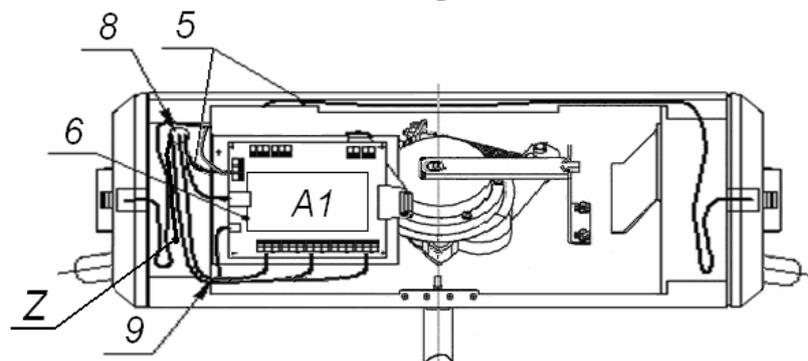
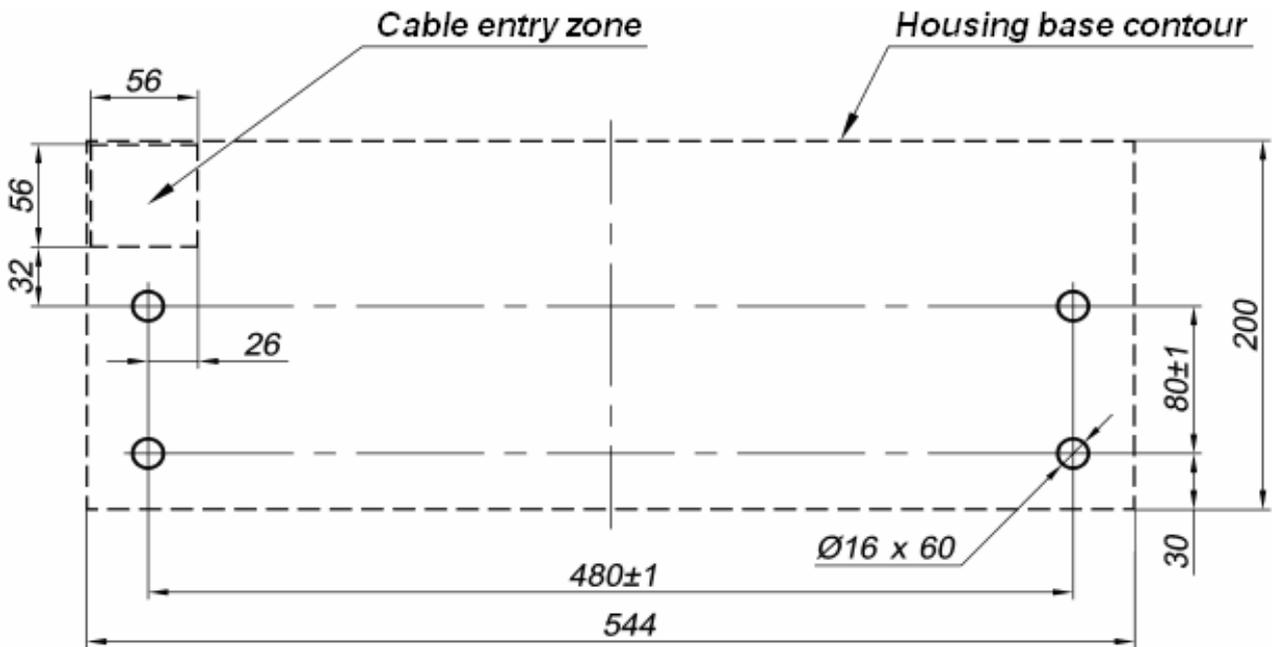

Figure 10. Cable layout inside the housing
Figure 11. Hole pattern for mounting of the housing
4. Mark and prepare mounting holes for anchor bolt sleeves on the installation surface according to Figure 11.
8. Open the housing top cover (3) with the key (4). The sequence of top cover opening is described in Section 6.
9. Pull the cables inside the housing. Recommended cable layout inside the post is shown on Figure 10.
11. Perform the IP-Stile housing grounding. Ground contact **Z3** is under the top cover (3) to the left of the controller board. In order to fix the grounding cable on the contact use M4 screw (Figure 10).